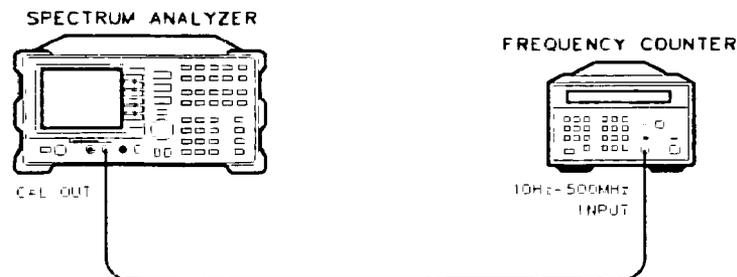

Figure 3-13. Calibrator Frequency Accuracy Test Setup
14. Connect the equipment as shown in Figure 3-13.